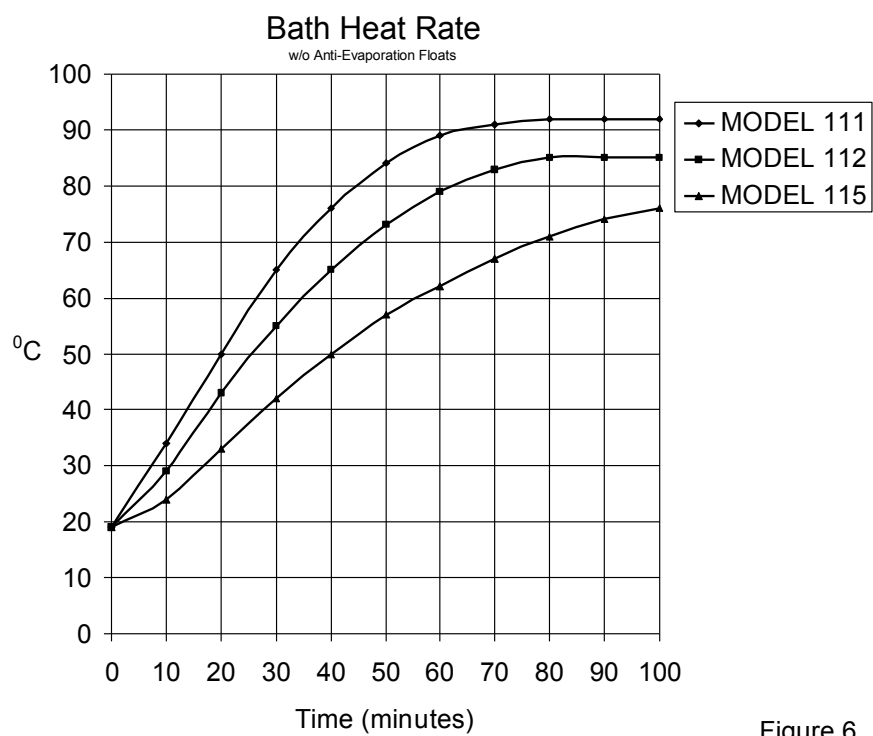

Figure 6
4. Allow the bath to heat to the desired temperature and stabilize, see figure 6.